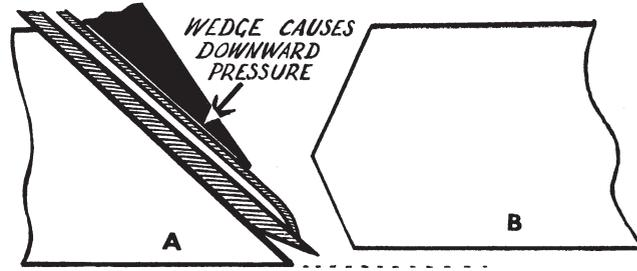
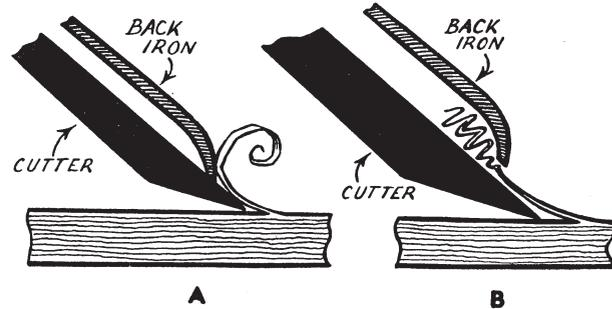

FIG. 2. DISTORTION CAUSED BY WEDGE THE CUTTER, ALTHOUGH PROJECTING BELOW FRONT EDGE OF MOUTH CANNOT TOUCH THE WOOD BEING PLANED
FIG. 3. THE BACK-IRON
planing. A common one in a new plane is that shown in Fig. 2. The part of the sole (A) behind the mouth is slightly lower than the part (B) in front of it. The result is that the cutter will not touch the wood being planed, or, if lowered, takes off a very thick shaving and may tear out the grain. This difference in level between back and front of the sole is caused by downward pressure exerted by the wedge, and, when correcting
through out its width. Fig. 3 (A) shows the normal function of the back-iron in bending the shaving and making it curl. It is this function which helps to prevent the mouth becoming choked. (B) shows the result of even a slight gap at any point between the tip of the back-iron and the surface of the cutter. The
In some woods there is no problem since the grain flows in the same direction throughout. An example is given in Fig. 1, from which it is clear that there is no liability to tear out providing it is planed in the direction shown by the arrow. Others are more complicated and the grain may vary in different parts as in Fig. 2. Note how the grain curves up and down at the edge (incidentally it is always as well to look at the edge as it is a useful indication of grain direction). Another awkward grain is that found in certain varieties of mahogany, padauk, and satinwood. The grain runs in narrow streaks varying for about $\frac{1}{4}$ in. to 1 in. wide, and whilst one streak runs up, the other runs down. Thus in a single shaving parts of the cutter are working with the grain whilst others are working against it. The idea is shown in Fig. 3. It is thus clear that whilst some woods can be planed in one direction with advantage, others are as difficult one way as the other.